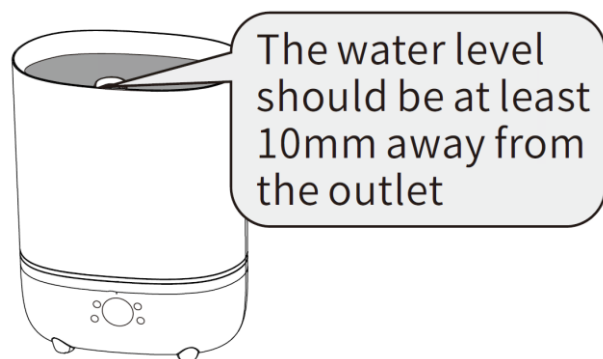

Fig. 4
- 3. Don't pour the water above max water level which is indicated on the mist outlet tube inside the water tank (distance between water and mist outlet should be at least 10mm) (fig. 4)